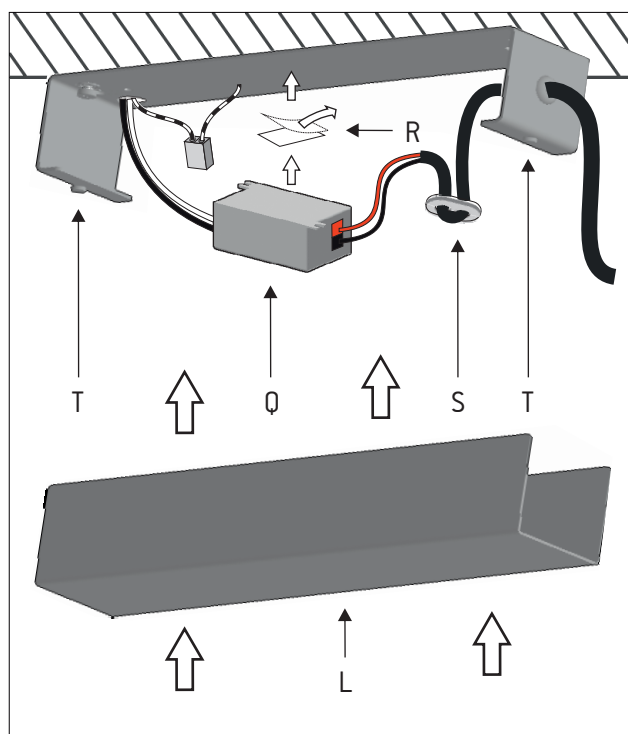

Figure 8
8 - Connect the driver (Q) to the electrical cable from the ceiling and fix it to the mounting bracket with double faced tape (R). Pass the electrical cable of the lamp through the lateral hole of the mounting bracket. Adjust the cable to the desired length and fix it using the cable ties (S). Cut the excess cable and make the electrical connections. Place back the canopy (L) and make sure that it is fixed with the mounting bracket through the magnets (T). Figure 8